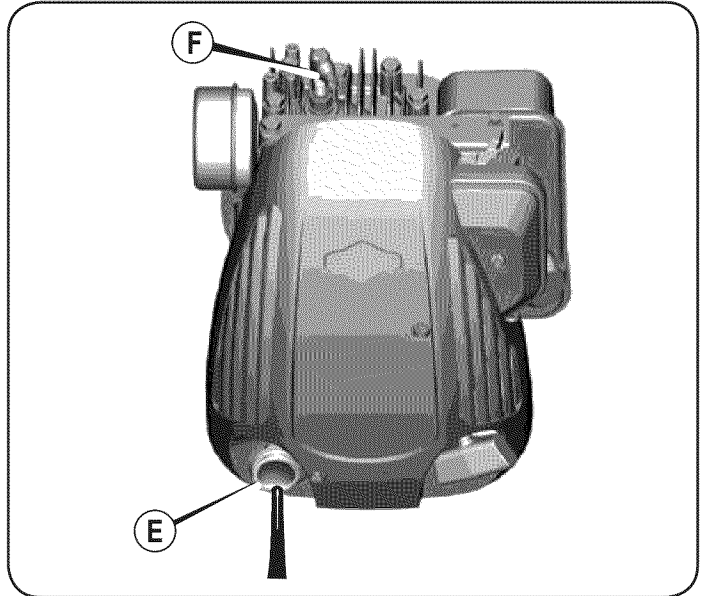

Figure 13
1. With engine off but still warm, disconnect the spark plug wire (F) and keep it away from the spark plug.
3. Remove the oil fill dipstick (E) and drain the oil into the container by tipping the engine toward the oil filler neck. See Figure 13.